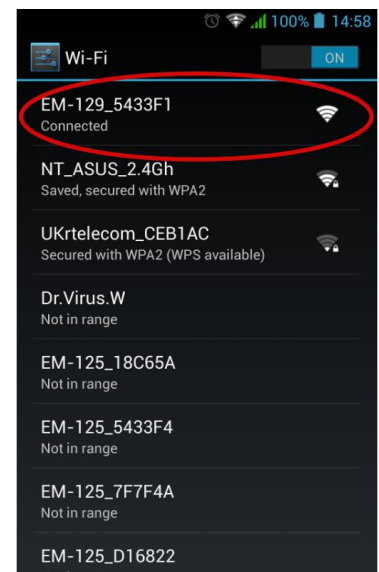

Fig. 3 – Access point of EM-129
At the same time, the status indicator (Fig. 1, pos. 2) will flash in blue-red and meter EM-129 will create an access point with name "EM-129\_xxxxx", where xxxxxx is the unique device code (see Figure 3). Release the button.